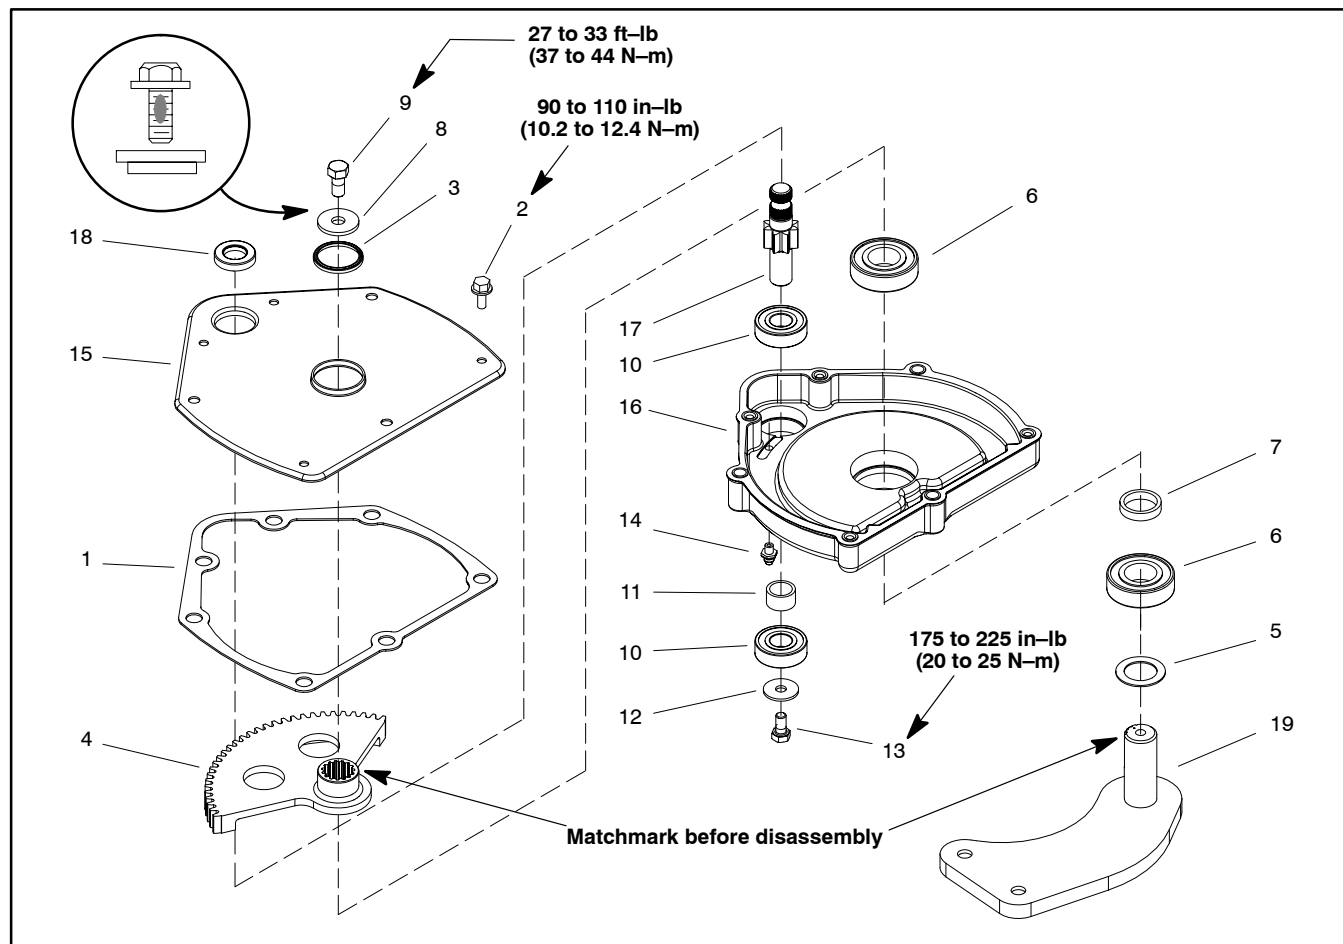

Figure 11
8. Secure flange head screw with patch lock and step washer to the Pitman arm. Make sure to position step washer as in Figure 11. Torque screw from 27 to 33 ft-lb (37 to 44 N-m).